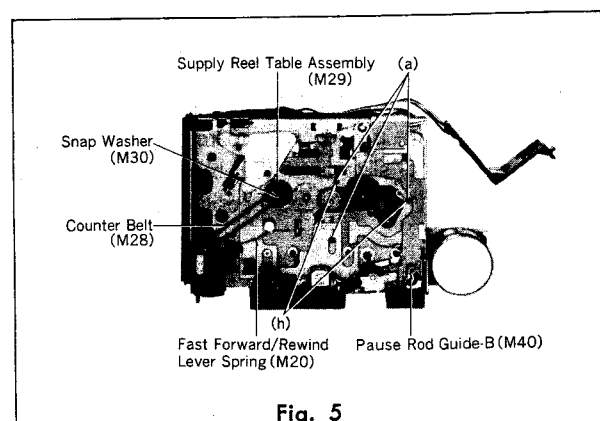

Fig. 5
1. Remove the fast forward/rewind lever spring (M20) (shown in fig. 5).
3. Remove pause rod guide-B (M40) (shown in fig. 5).
4. The removal of 5 screws (a) allows the upper base plate assembly (M34) to come off (shown in fig. 5, 7).
2. The removal of 4 screws (h) allows the lower base plate assembly (M90) to come off (shown in fig. 5, 7).